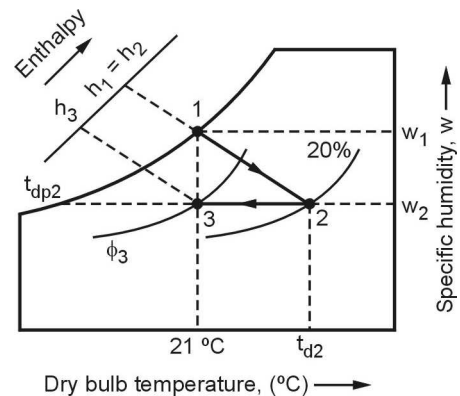

Fig. 5.86
**Sol. :** Refer Fig. 5.86.
- Locate the initial condition of air i.e. point '1' on the saturation curve at 21 °C DBT as shown in Fig. 5.86.